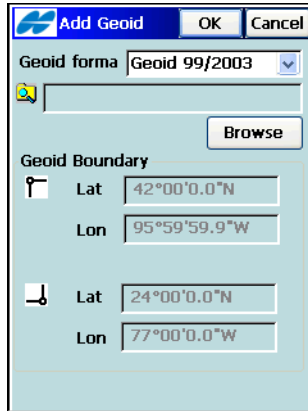

Figure 3-83. Geoid Parameters
- **Edit** – opens the **Add Geoid** screen (Figure 3-83 on page 3-86) to change the geoid.
- **Add** – opens the **Add Geoid** screen (Figure 3-83 on page 3-86) to add a geoid file to the list. Install the geoid file on the controller prior to adding it to the list. Some geoid files can be installed on the controller during TopSURV installation. They are provided to the user with the TopSURV installation program as ‘.gff’ files.
On the **Add Geoid** screen (Figure 3-83 on page 3-86), select a Geoid file from the controller to view the boundaries of the geoid application.